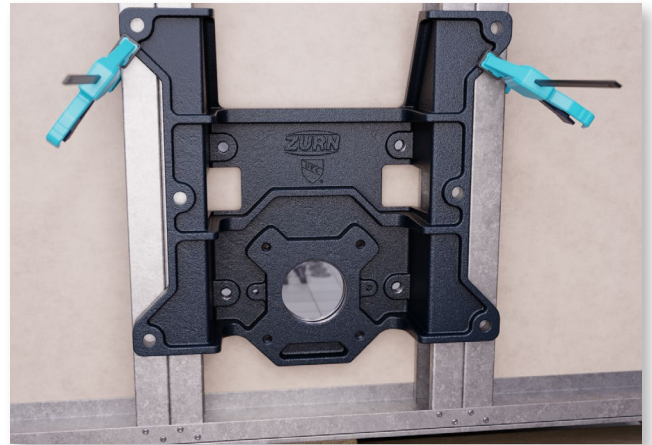

Figure 4
2. Place faceplate in clearance opening between the double structural wall studs mentioned in the "Wall Assembly" section above. Accounting for finished flooring thickness, set the faceplate to the desired rough in height of 4"-8" [102-203], ensuring faceplate is centered in clearance opening and parallel to wall studs. Temporarily clamp faceplate to wall studs to prevent movement, confirming both faceplate flanged faces fully contact the wall studs. (Figure 4)